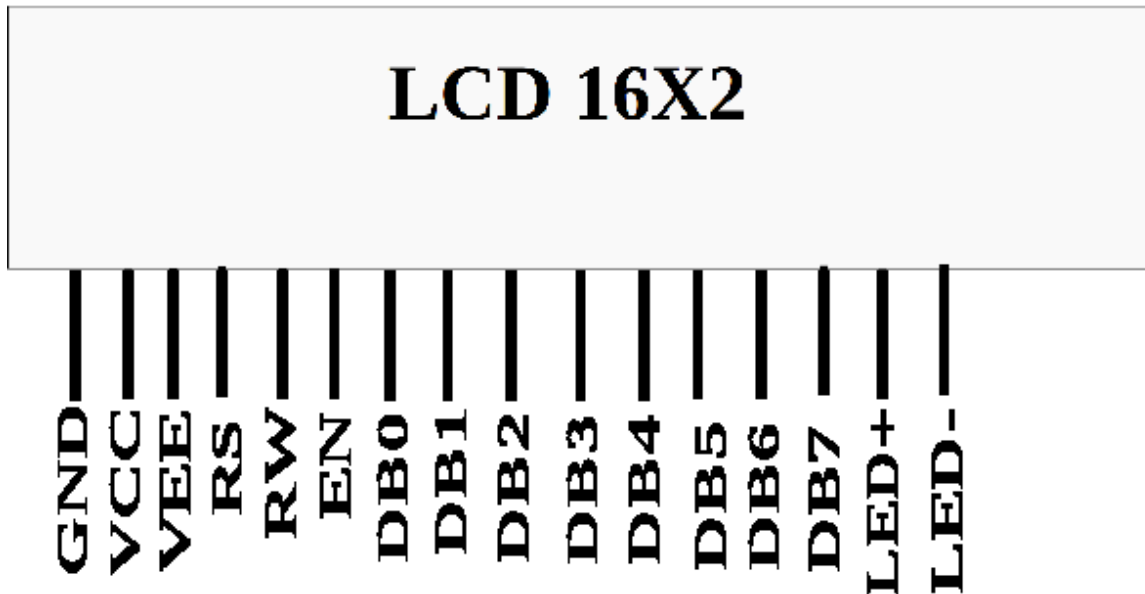

Figure 1.1.1.1: LCD pins
1.1.1. Plug the LCD in Fig. 1.1.1.1 to the breadboard.